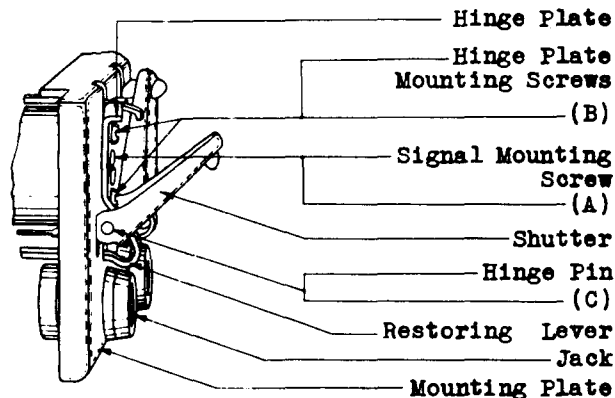

Fig. 1
- (a) Fig. 1 (A) - The combined jack and signal shall be fastened securely to the mounting plate. Gauge by feel.
- (b) Fig. 1 (B) - The hinge plate shall be fastened securely to the mounting plate and signal shell. Gauge by feel.
2.05 Shutter Movement - Fig. 1 (C) - The shutter shall move freely on its hinge pin. Gauge by feel.